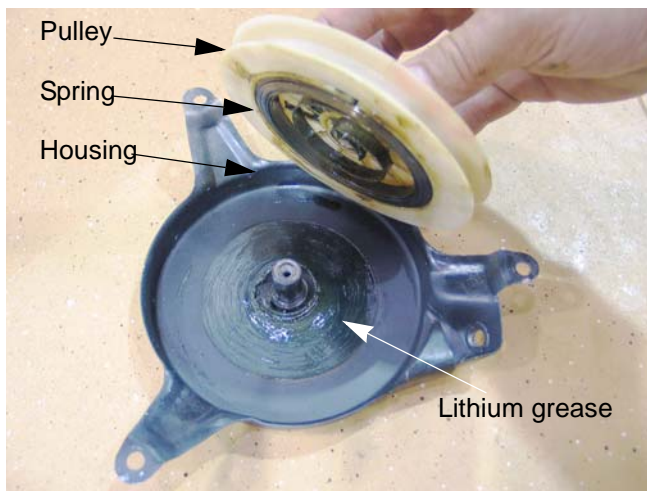

**Figure 6.10**
3. Inspect the pawls and torsion springs for wear and damage. See Figure 6.10.